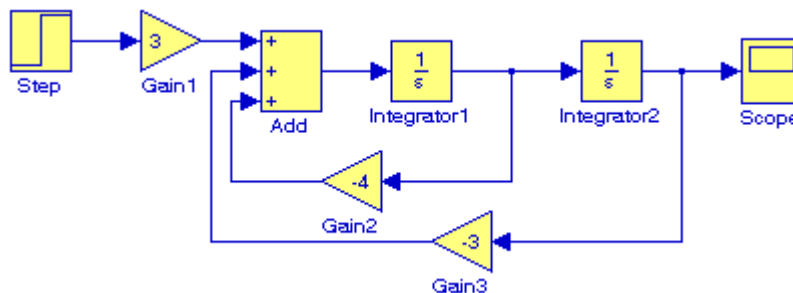

Figure B.12. File `Equation_1_26` complete block diagram
- To complete the block diagram, we add the **Scope** block which is found in the **Commonly Used Blocks** on the **Simulink Library Browser**, we click on the Gain block, and we copy and paste it twice. We flip the pasted Gain blocks by using the **Flip Block** command from the **Format** drop menu, and we label these as **Gain 2** and **Gain 3**. Finally, we double-click on these gain blocks and on the **Function Block Parameters** window, we change the gains from to  $-4$  and  $-3$  as shown in Figure B.12.